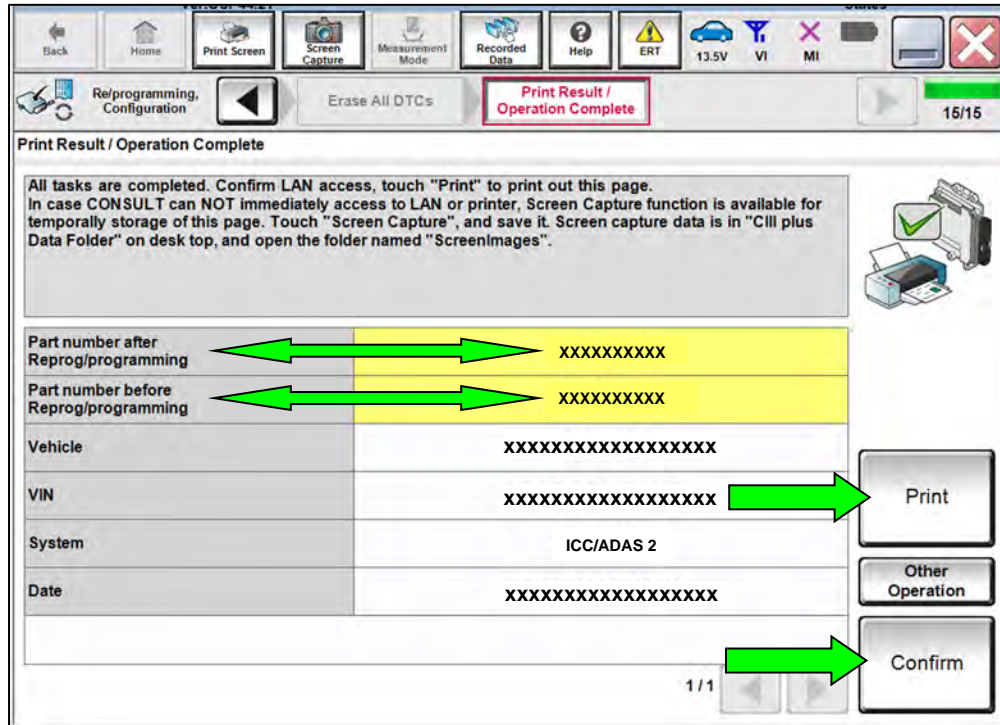

Figure 18
**HINT:** When the entire reprogramming process is complete, the screen in Figure 18 will display.